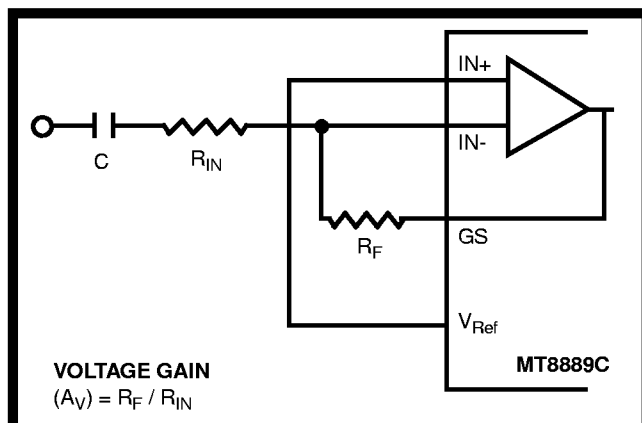

Figure 3 - Single-Ended Input Configuration
The input arrangement of the MT8889C provides a differential-input operational amplifier as well as a bias source ( $V_{Ref}$ ), which is used to bias the inputs at  $V_{DD}/2$ . Provision is made for connection of a feedback resistor to the op-amp output (GS) for gain adjustment. In a single-ended configuration, the input pins are connected as shown in Figure 3.